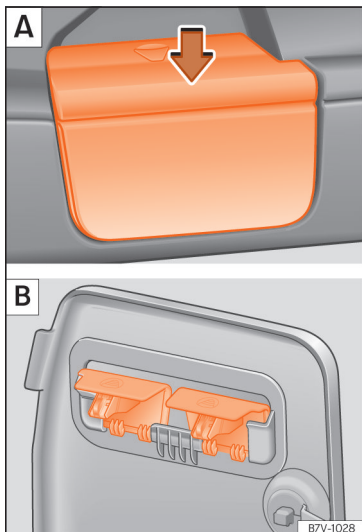

Fig. 142 Remove the shelf supports A then put them away safely B.
- Remove the shelf from the side trim support » » » Fig. 142 A. To do this, press the shelf upwards (arrow) and remove it.
- Open the compartment in the left-hand side boot lining » » » page 152 and hook the shelf to the rear of the compartment lid » » » Fig. 142 B.